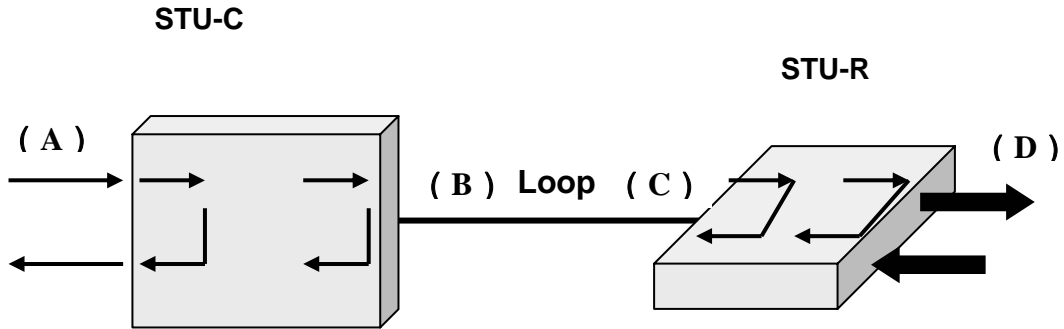

Figure 2.2 Local Loopback
The local loopback capability is set up inside STU-C/STU-R as close as possible to the loop interfaces. The local loopback is capable of control (activation and deactivation) by CID. The received signal is sent to the loop during local loopback. For example, if local loopback is activated at STU-C, the direction of local loopback would be like (B) in figure 2.2